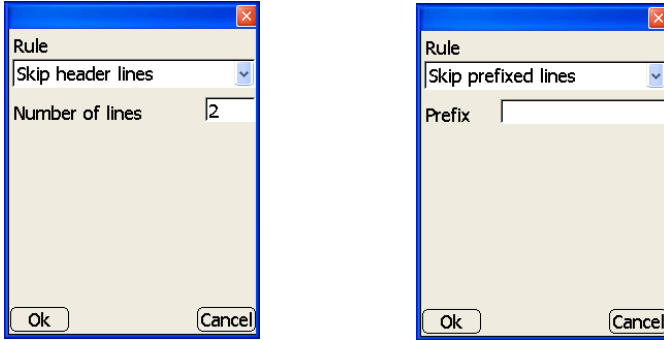

Figure 3-96. Add Import Rule
- Add – on the *Import rules* tab, press **Add** to add an import rule and it’s respective information, then press **Ok** to save the information (Figure 3-96 on page 3-64).
- Edit – on the *Import rules* tab, press **Edit** to edit the selected import rule. See the “Add” bullet and Figure 3-96 for details on editing the import rule.